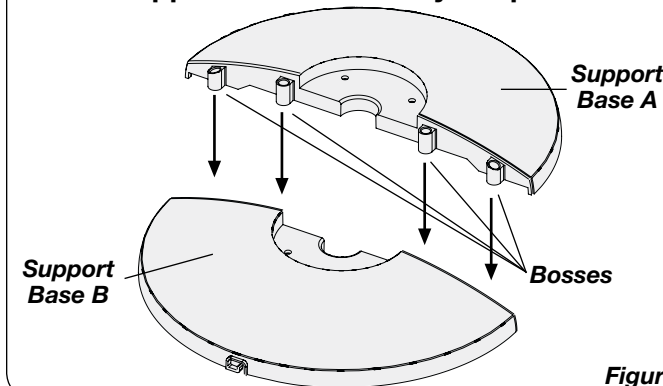

Figure 2
4. Assemble the Bases by interlocking the Bosses on Support Base A into the Boss Holes on Support Base B. Thread the Power Supply Cord through the large hole in the center of the Support Base Assembly. (Figure 2)